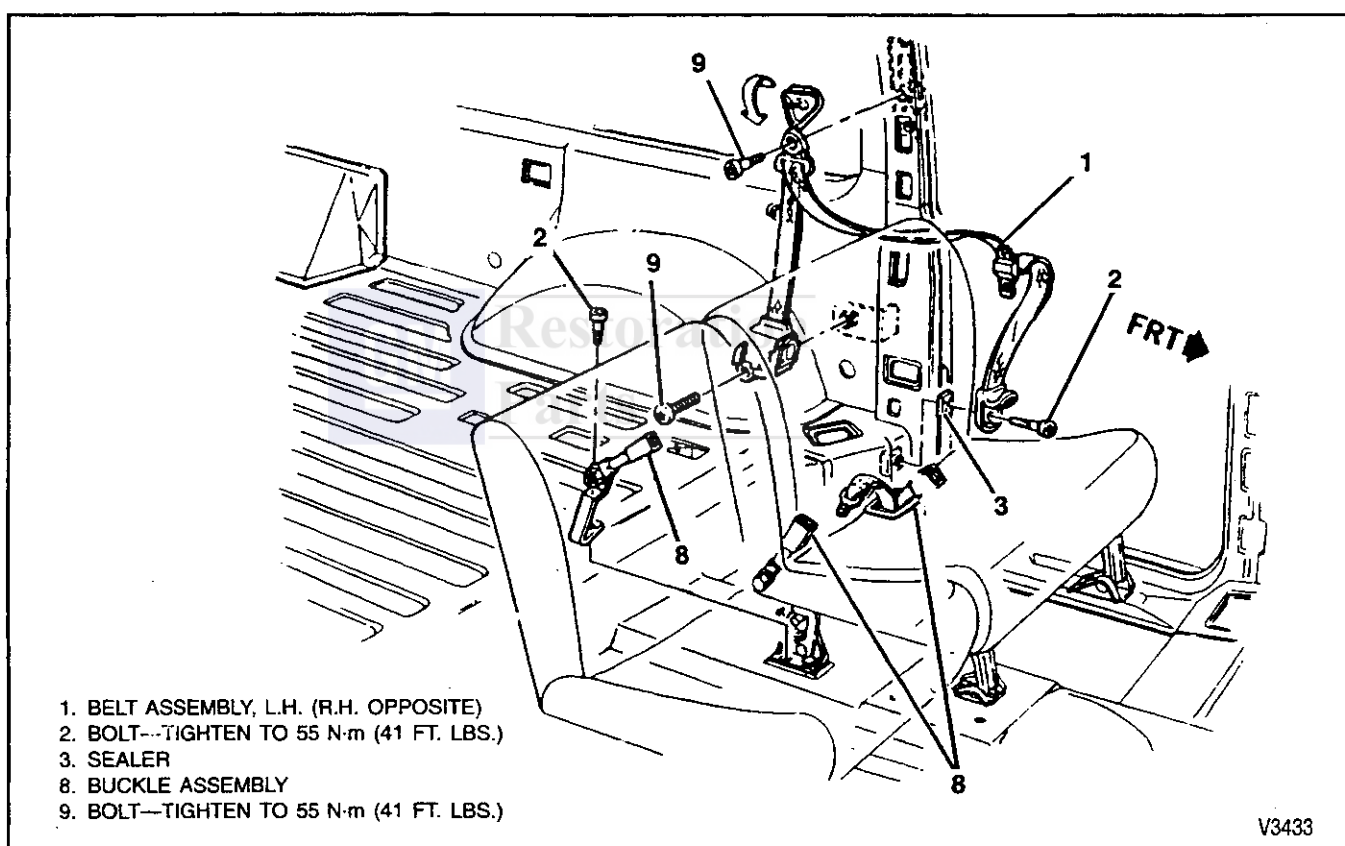

Figure 17—Folding Intermediate Seat Belts (Suburban)
**Remove or Disconnect (Figures 17 through 21)**
**Install or Connect (Figures 17 through 21)**